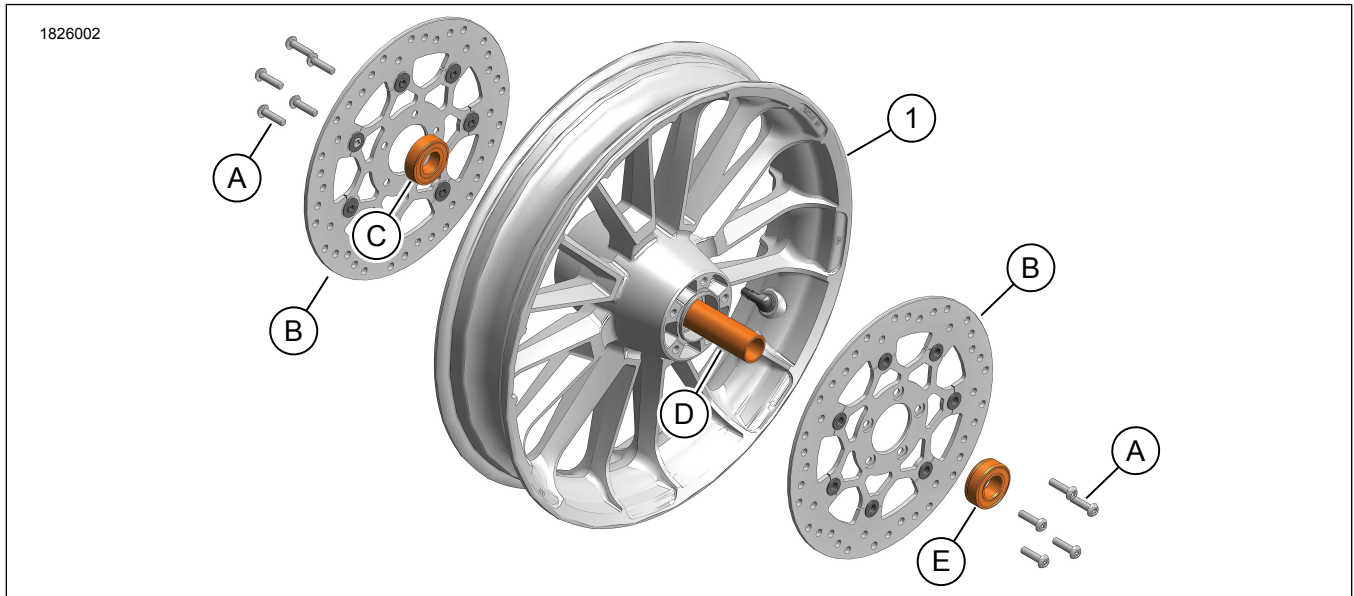

Figure 1. Kit Contents: HD Roulette 19 in. Wheel
1. Remove Original Equipment (OE) wheel. See service manual.
2. See Figure 1. Remove front brake rotors.
- a. Remove screws (A).
- b. Remove OE front brake rotors (B).
5. Remove wheel bearing spacer (D).
3. See Figure 1. Install bearing spacer (D) and **new** sealed wheel bearings (C, D).